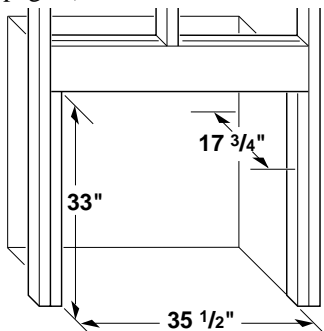
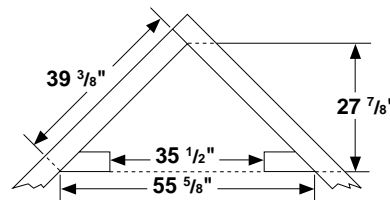

Figure 13 - Rough Opening for Installing in Wall
Figure 14 - Rough Opening for Installing in Corner (for Models VYGF33NRB & VYGF33PRB only)
1. Frame in rough opening. Use dimensions shown in Figure 13 for the rough opening. If installing in a corner, use dimensions shown in Figure 14 for the rough opening. The height is 33" which is the same as the wall opening above.